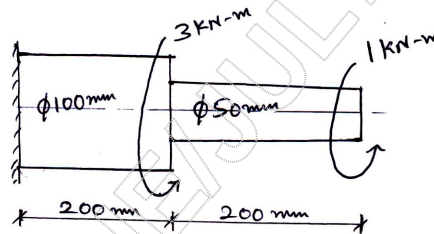

Fig.Q6(b)
b. A solid stepped bar of circular cross section shown in Fig.Q6(b) is subjected to a torque of 1 kN-m at its free end and a torque of 3 kN-m at its change in c/s. Determine the angle of twist and shear stresses in the bar. Take $E = 2 \times 10^5 \text{ N/mm}^2$ and $G = 7 \times 10^4 \text{ N/mm}^2$.